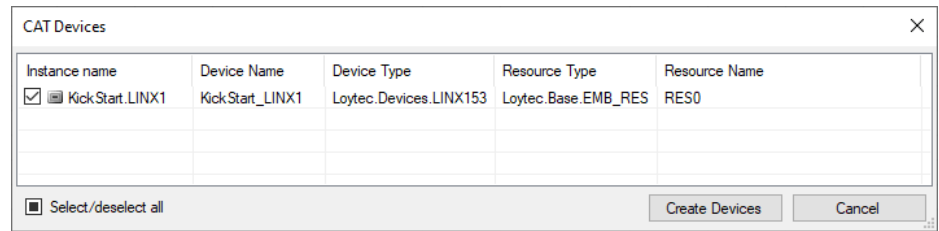

Figure 52: Select devices to be created.
21. In the list, select all devices that apply and click **Create Devices** (see Figure 52).